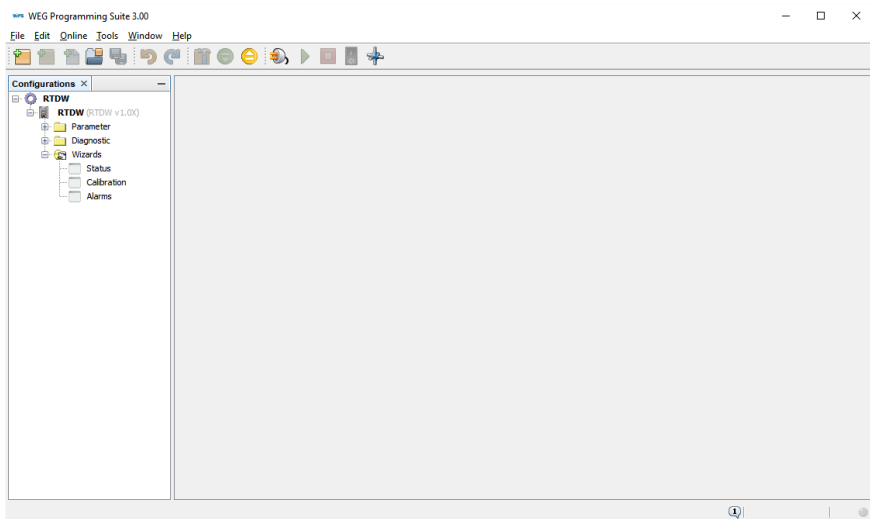

Figure 6.37: Available wizards
- In the "Settings" tab, open on the left, as shown in Figure 6.37 on page 6-44, find the Wizards option and double click to open it.
- In the "Settings" tab opened on the left side, as shown in Figure 6.37 on page 6-44, find and double-click to open the Wizards option.